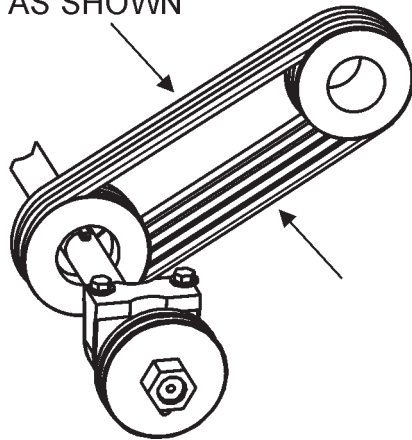

Figure 18. V-Belt Tension
3. Check V-belt tension (Figure 18) by using a tensionmeter (6.0 - 9.0 lbs.) against the inside belt at a mid point between the two pulleys, or by deflecting the center belt at a mid point 3/8" (10 mm) - 1/2" (13 mm).